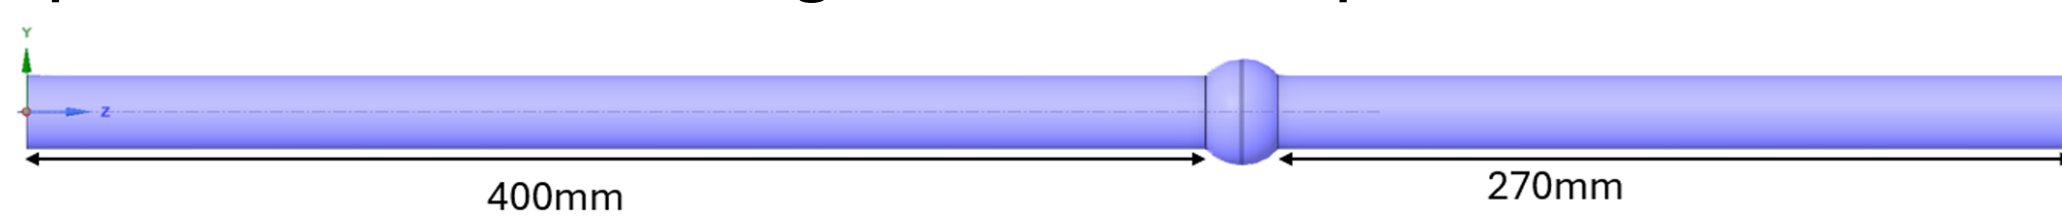

Fig. 1: Aortic geometry with inlet (left) and outlet (right) extensions.
**3D Aorta Model:** Annulus diameter of 23 mm (Fig. 1).